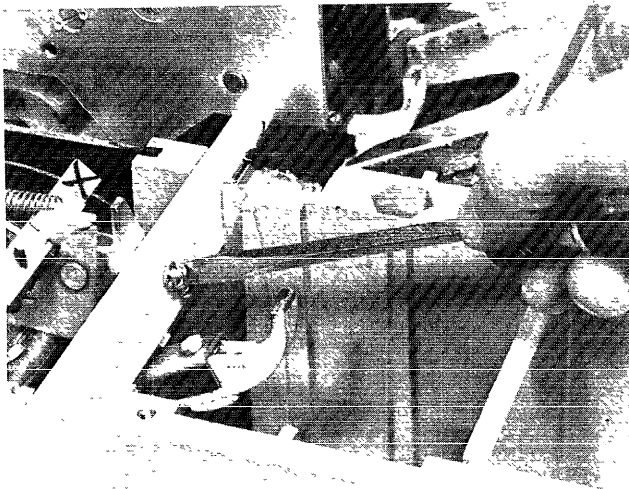

Fig. 5
- Secure auxiliary switch assembly to arm stop with two #8 x 1/16 screws and lock washers (Fig. 5). Tighten to 23 inch pounds.